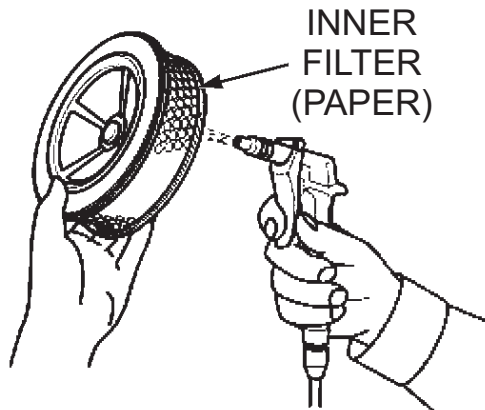

Figure 16. Clean Air Filter Element
3. Tap the paper filter element several times on a hard surface to remove dirt, or blow compressed air, not exceeding 207 kPa (2.1 kgf/cm2, 30 psi), through the filter element from the inside out (Figure 16). **NEVER** brush off dirt. Brushing will force dirt into the fibers. Replace the paper filter element if it is excessively dirty.